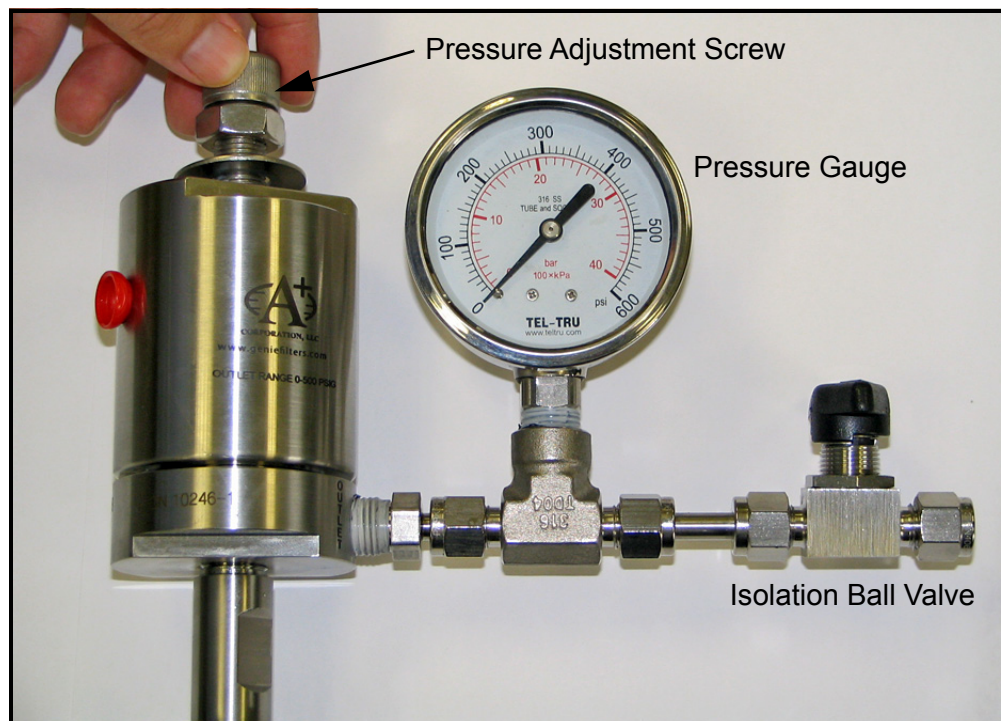

Figure 17: Rotating the Pressure Adjustment Screw
2. Rotate the pressure adjustment screw on the pressure regulator fully counterclockwise until it rotates freely. Close the isolation ball valve (see *Figure 17* below).